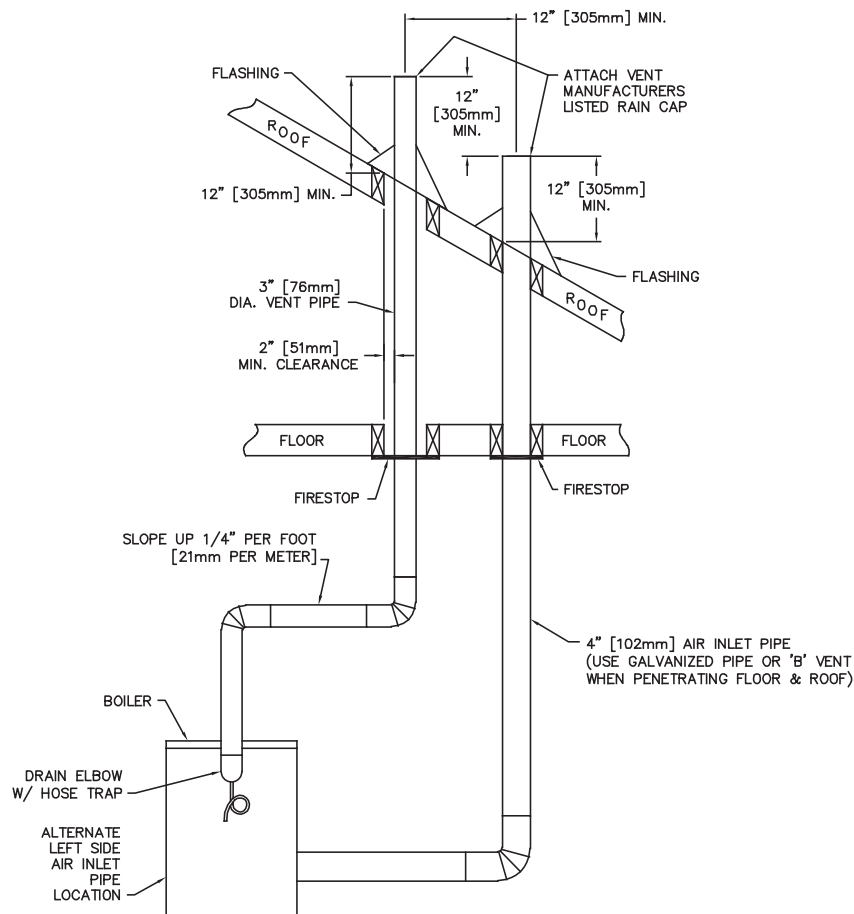

Figure 4.3: Vertical Venting System
2. Vent pipe and air inlet pipe must terminate 12" (305 mm) above expected snow lines. Vent pipe must be a minimum 12" (305 mm) above and 12" (305 mm) horizontally from air inlet pipe. See Figure 4.3.